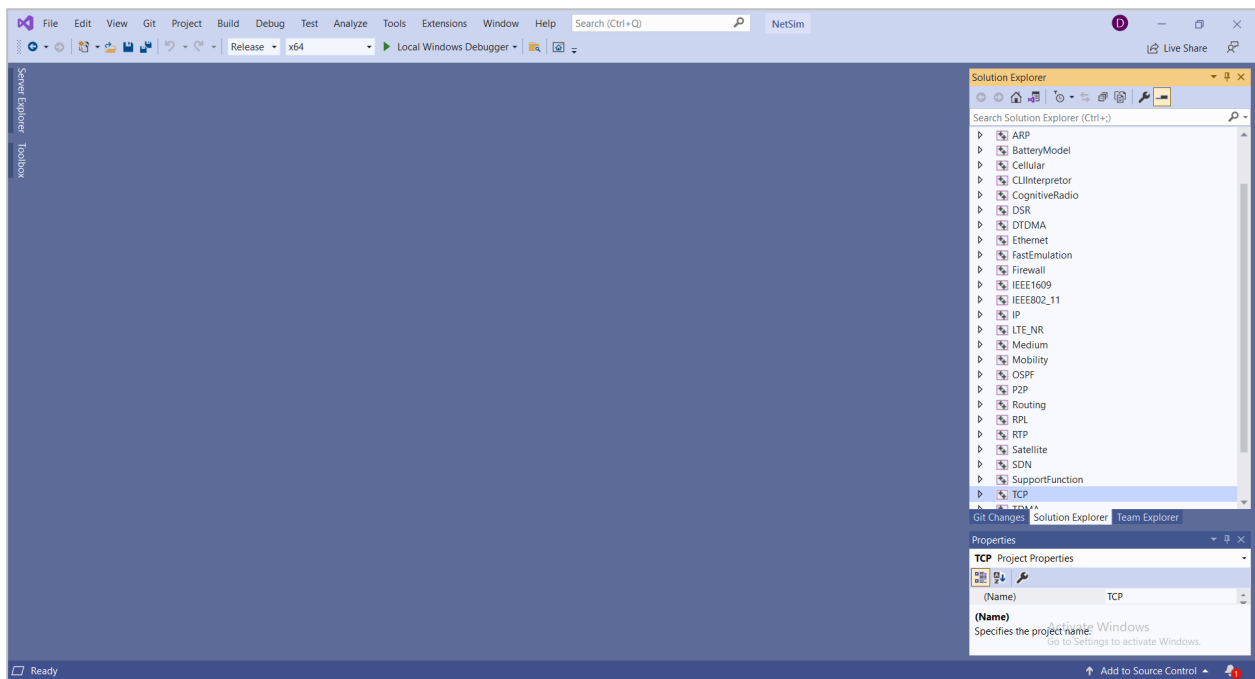

Figure 9-6: Based on the build of NetSim select x64 in Visual studio
2. By default, x64 is choose for 64-bit version of NetSim. These changes will be automatically applied to all projects that are displayed in the Solution Figure 9-6.